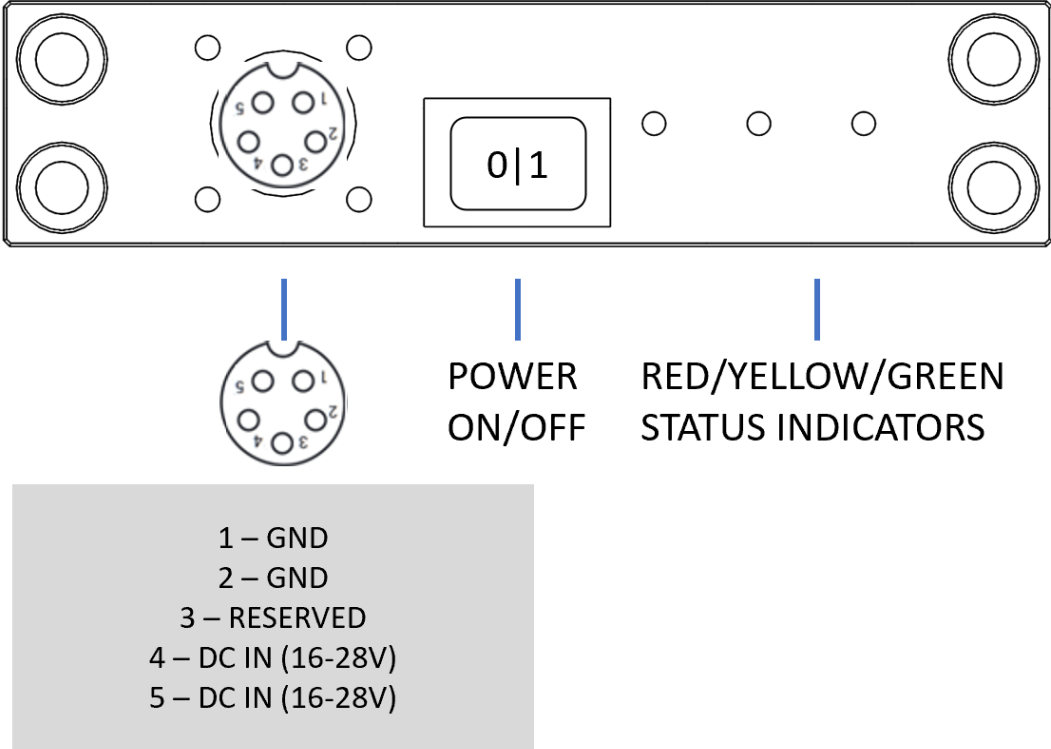

Figure 1
- Check charger/Solar panel voltage polarity (see Figure 1), Pin 1 and 2 should be connected to negative terminal, Pin 4 and 5 should be connected to positive terminal.